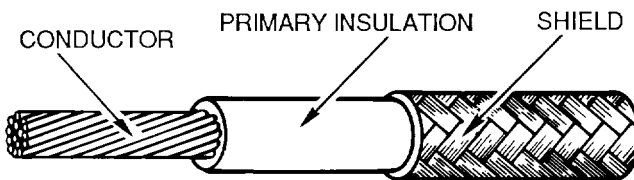

Figure 5. Single Conductor Cable Construction
32. **DEFINITION.** These cables have one single insulated conductor with a metallic covering, shield, outer conductor, and a jacket or outer covering. These single conductor cables have varied uses and applications. Applicable specifications must be adhered to during repair and replacement, for individual applications and repair (WP 015 00). Each WP will refer to applicable military specifications. The basic construction of a single conductor cable is shown (Figure 5).
33. **ELEMENTS.** There are three basic elements in the single conductor cable that when combined together during manufacture constitute a single conductor cable (Figure 5).
36. **Jacket.** The single conductor shield cable will typically have a jacket similar to that shown in Figure 5. The
jacket will be an insulating material, probably the same as the primary insulation shown in Figure 5.